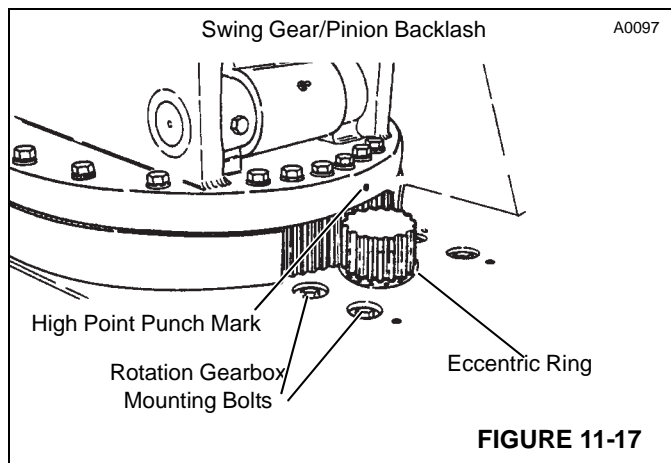

FIGURE 11-17
- Start the engine and rotate the mast until the high point (marked with a punch-mark on the edge of the mast base plate) is in alignment with the pinion. See Figure 11-17.
Remove breather (7, Figure 11-17) and clean it in a suitable solvent. Clean all other parts. Make careful inspection of all parts, including gears, shafts and bearings.